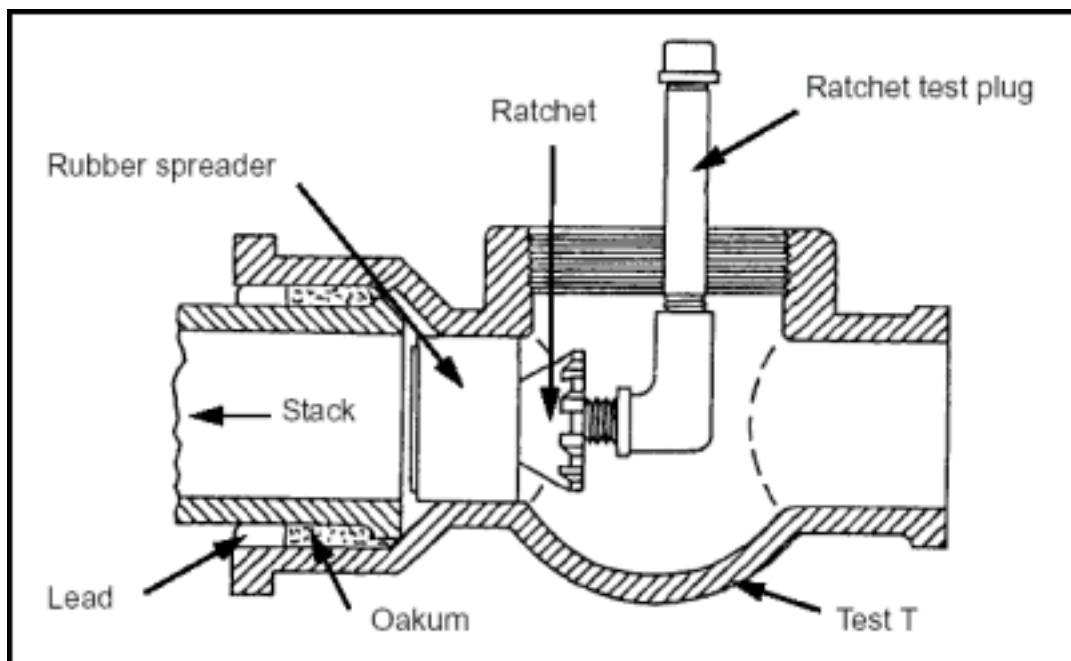

Figure 8-2. Test T With Plug Inserted
Step 1. Seal all branches and vent lines. Place a ratchet test plug in the test T (Figure 8-2) at the base of the stack.